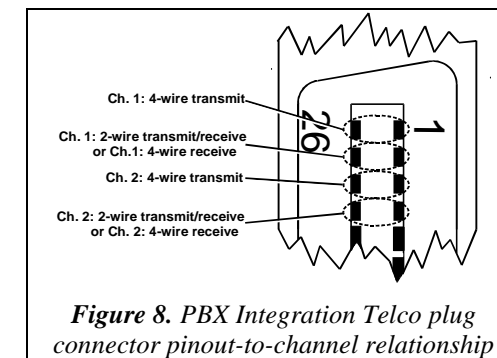

Figure 8. PBX Integration Telco plug connector pinout-to-channel relationship
- The Telco plug cable connector tabulation is arranged so that the four conductors of one station set circuit are adjacent on a standard, type-66 punch-down block. The pattern shown in *Figure 8* continues down the connector so as to encompass, for a D/82JCT-U, all eight channels with two pairs of conductors per channel, for a total of 16 twisted-pair conductors.